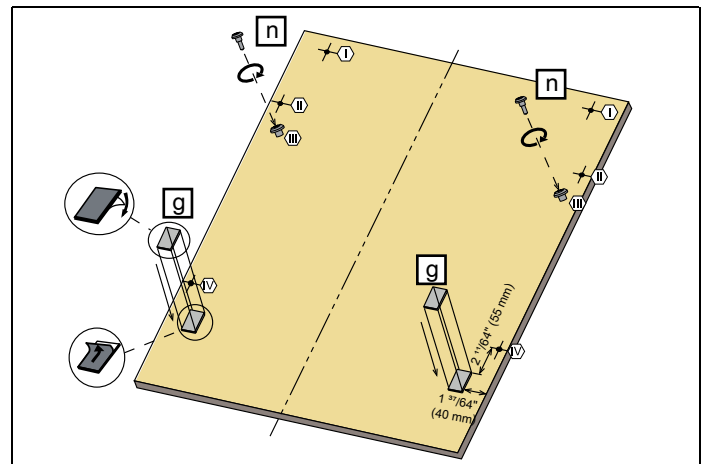

Fig. 25
3) As shown in Fig. 25, Screws $\varnothing 5/32'' \times 27/32''$ (4mm x 21.5mm) are installed in positions III.
4) As shown in Fig. 25, Wooden Door Fixing Strips are installed in the positions shown in the figure.